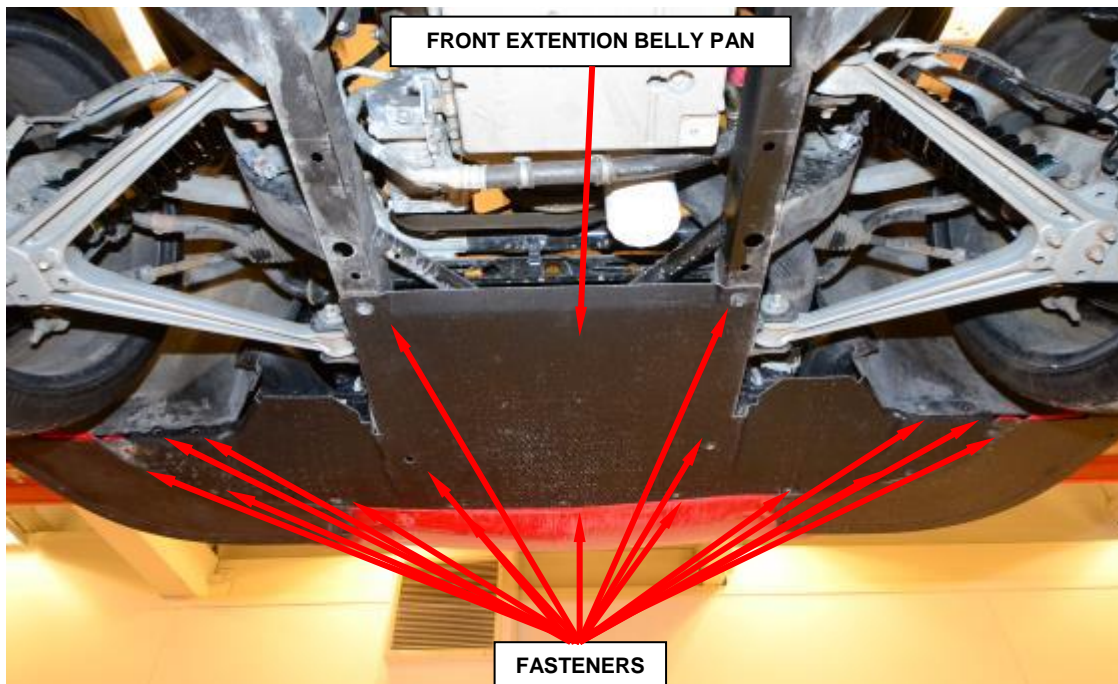

Figure 12 – Front Extension Belly Pan
- c. Remove the front extension belly pan (Figure 12).